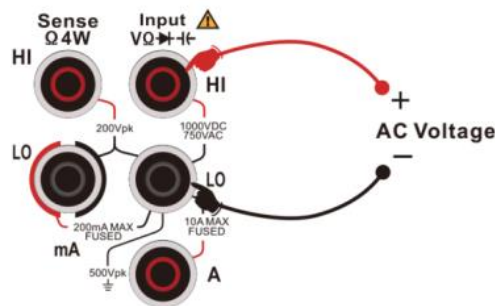

Figure 2-9 Connection of AC voltage measurement
- 2) Connect the test leads to the measured voltage as Figure 2-9, connect the red test lead to terminal HI, and connect the black one to terminal LO.